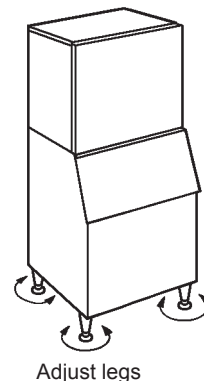

Fig. 5
7) Adjust the four legs on the bottom (adjustable from 0 to 25.4 mm) to have the icemaker perfectly horizontal. Use the spirit level. See Fig. 5.